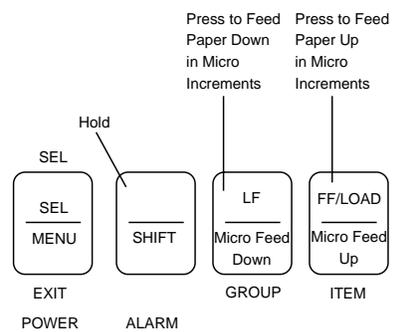

Figure 6-16. Model 602 Control Panel TOF Buttons
- 11.14. Use the control panel to adjust the TOF setting, if necessary. See Figure 6-16. To set the TOF further down the page, press and hold the **SHIFT** button while pressing the **FF/LOAD** button to advance the paper up in micro increments. To set the TOF further down the page, press and hold the **SHIFT** button while pressing the **LF** button to advance the paper down in micro increments.